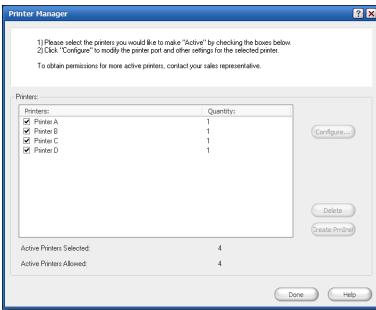

Figure 11—Printer Manager
To open the Printer Manager, choose **Manage Printers** from the File menu (see Figure 11). Before you manage your printer in RIP-Queue, make sure no jobs are processing or printing. Because the printer management options affect how RIP-Queue is configured, all processing and printing stops when you access the Printer Manager.
1. In *RIP-Queue*, select **Printer Manager** from the *File* menu. This opens the *Printer Manager* dialog (see Figure 11).